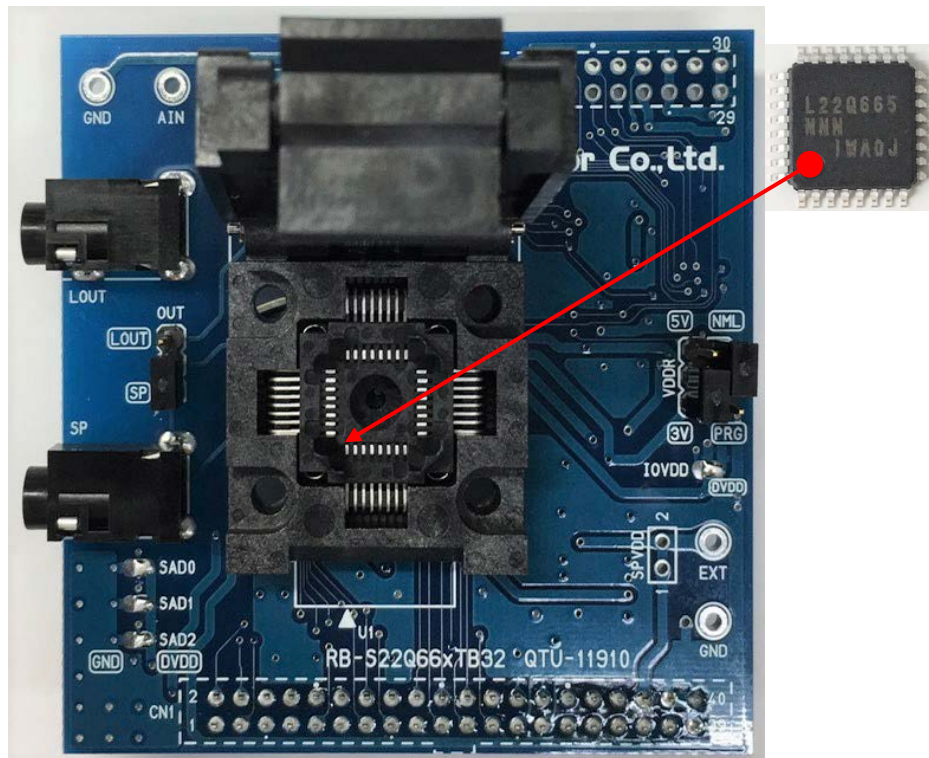

Figure 1 Outline Diagram
- Turn off the power when loading devices into the RB-S22Q66xTB32. Be sure to orient the device correctly. Pin 1 direction is toward the lower left side when the lid is opened. The Figure 1 shows the setting directions of devices.